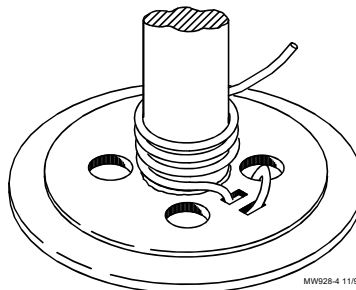

Figure 12. Cable Wrap on Drum
6. Attach one end of the 3/16" [4.8 mm] cable to the winch as shown in **Figure 12**. Unroll the cable along the length of the water line.